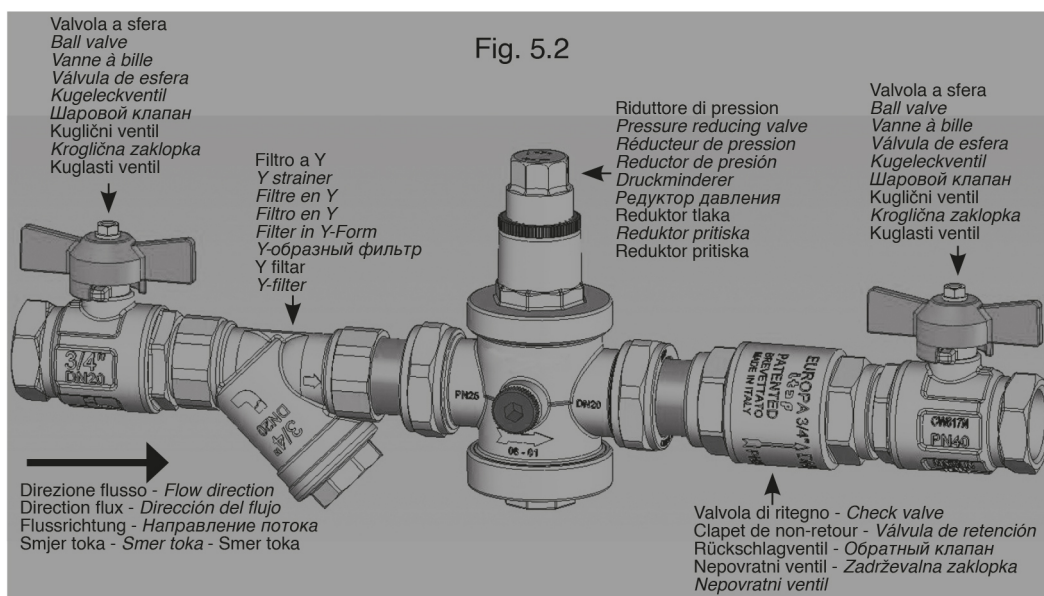

Fig. 5.2
- The right scheme of installation is shown in Fig. 5.2